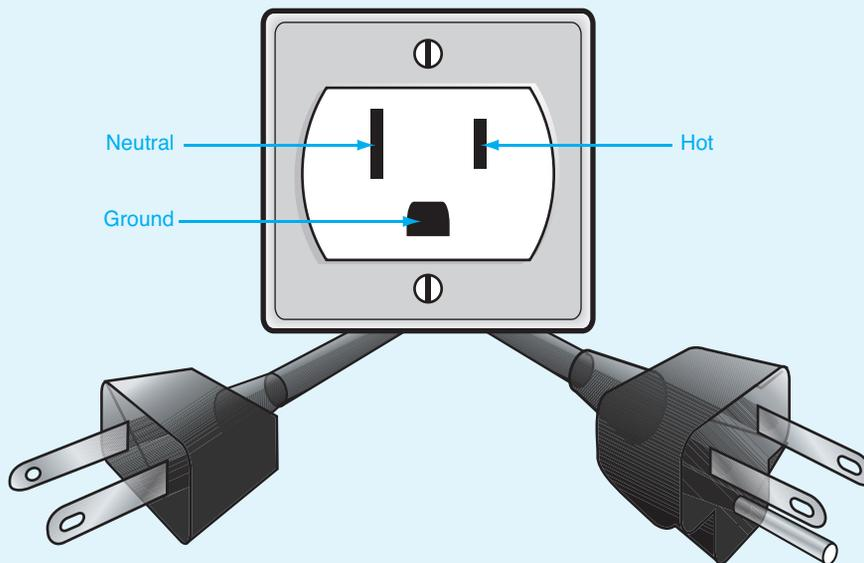

Figure 4.38 AC outlet
2. Power on the multimeter. Locate an AC power outlet. Refer to Figure 4.38 for the power connections.